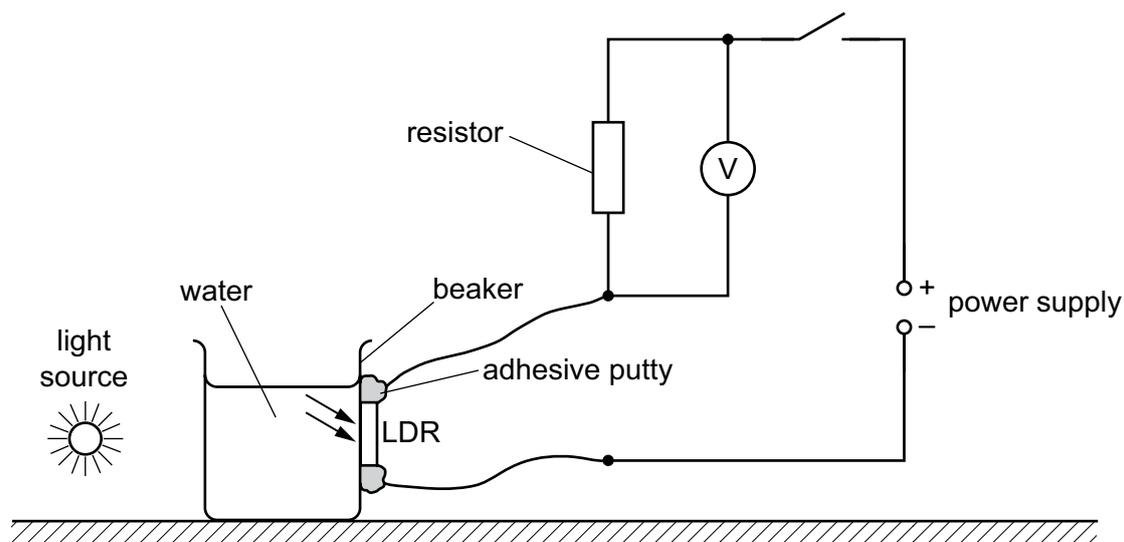

Fig. 1.1
- 3 The supervisor should assemble the circuit and other apparatus as shown in Fig. 1.1.
The supervisor must ensure that the apparatus is in the configuration shown in Fig. 1.1 with only  $150\text{ cm}^3$  of fresh water in the beaker and the light source switched off.